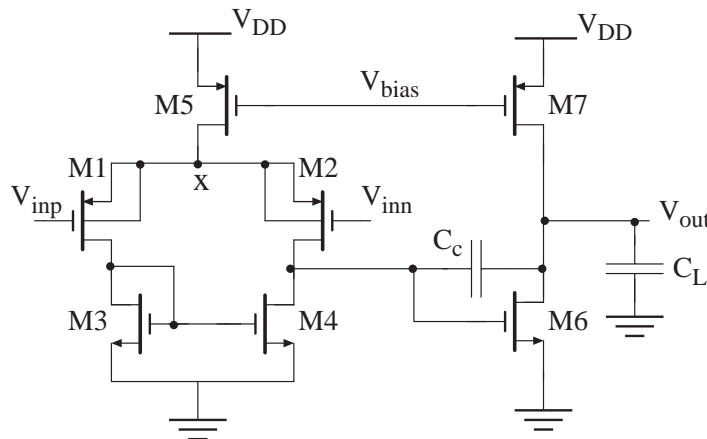

Figure 6.1 Operational transconductance amplifier
- a) Draw the small signal scheme for the amplifier in Figure 6.1. Do not forget the most important parasitics. (2p)